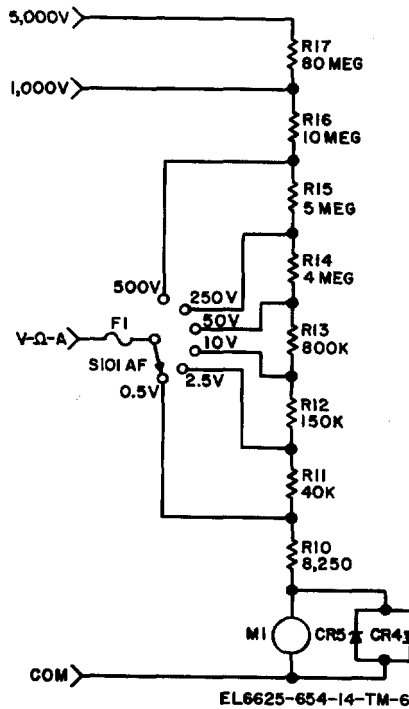

Figure 4-2. Simplified 20K  $\Omega$  /V Vdc circuit.
a. 20 K  $\Omega$  /V Circuit. Figure 4-2 illustrates a simplified schematic diagram of the 20K  $\Omega$  /V voltmeter circuit. This circuit provides a high impedance measurement source to minimize